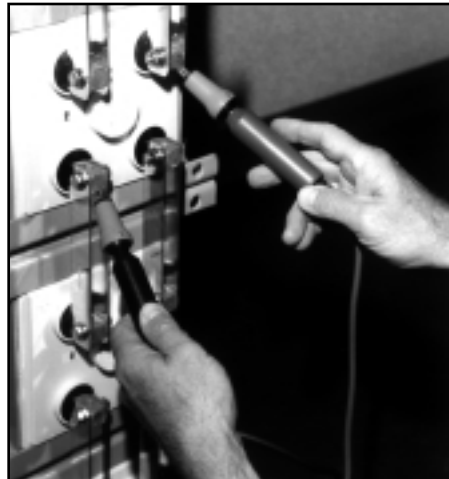

Fig. 23
4. Individual cell ohmic readings. Place the meter leads on the positive and negative posts which are furthest from each other on the same cell. (See Fig. 23, pg. 14.)